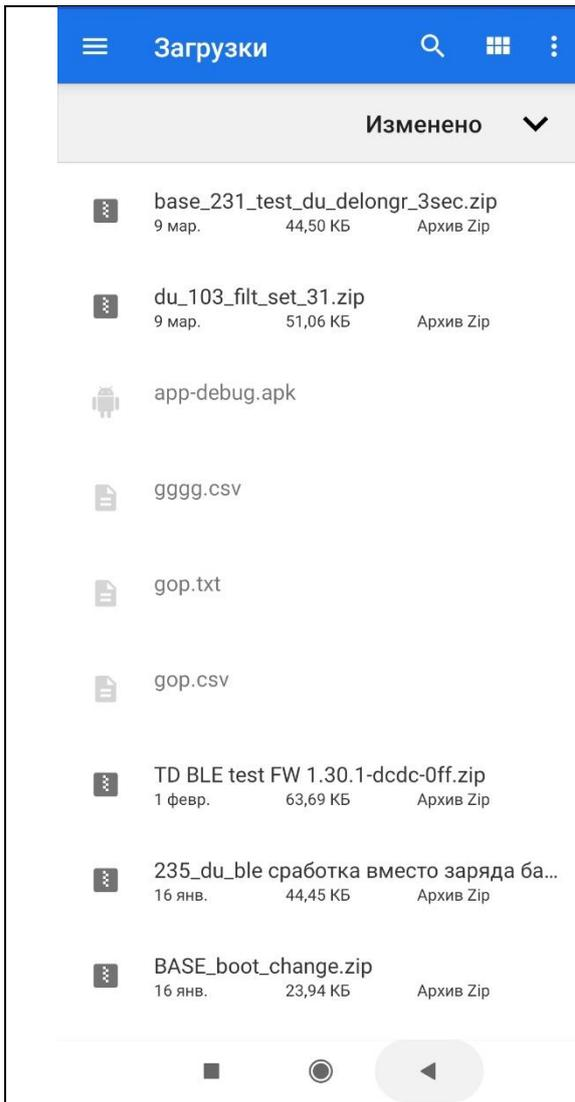
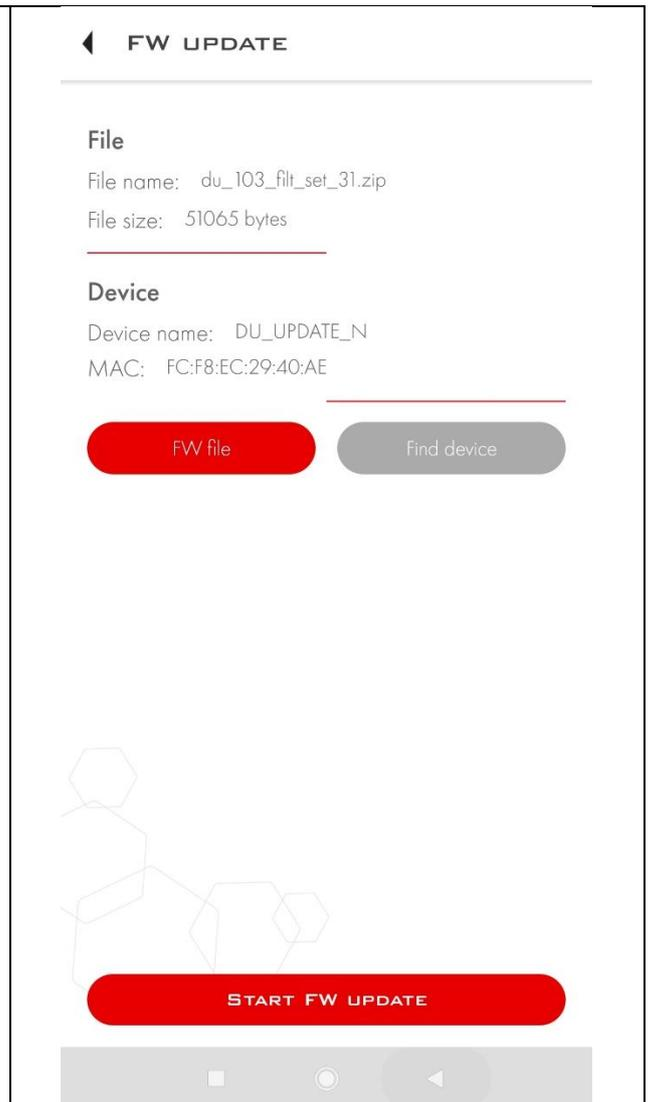

Fig. 10.10. Select the **DU FW file** on your smartphone
Fig. 10.11. Tap **Start FW update**
2. Find the firmware file that you should have previously downloaded onto your smartphone (Fig. 10.10.) Then press **Start FW update** (Fig. 10.11.)